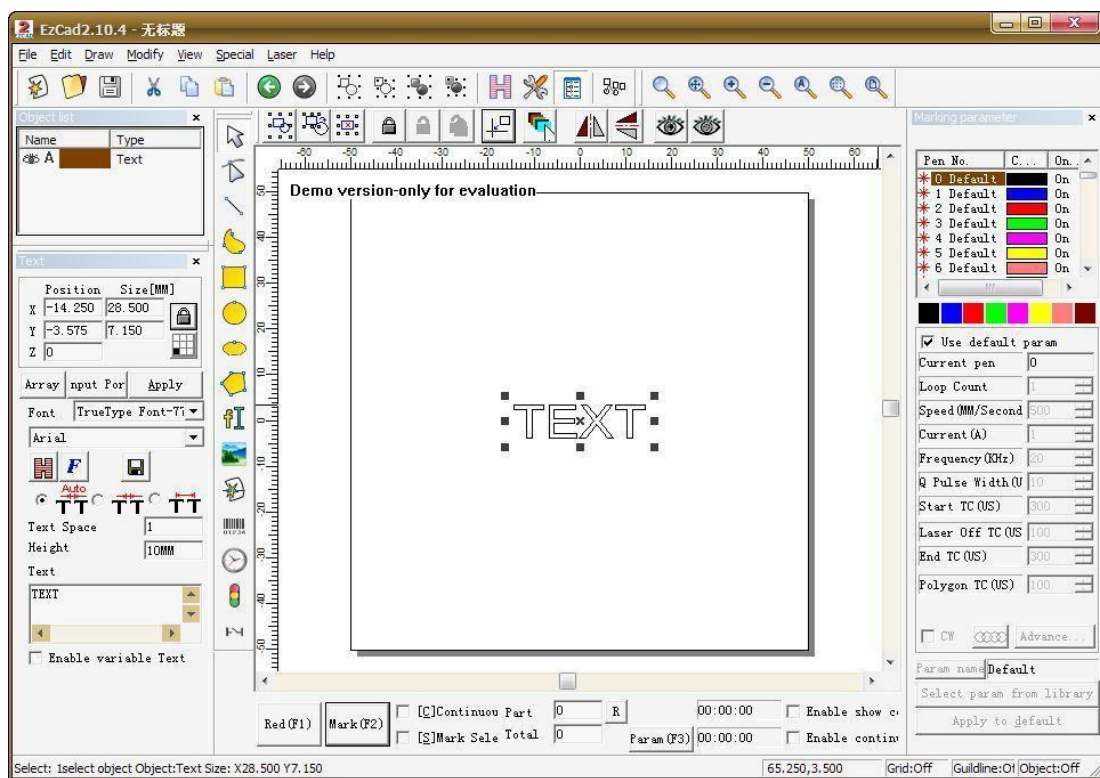

Figura 1-2 Janela principal do EzCad2
- **Interface principal (Figura 1-2)**